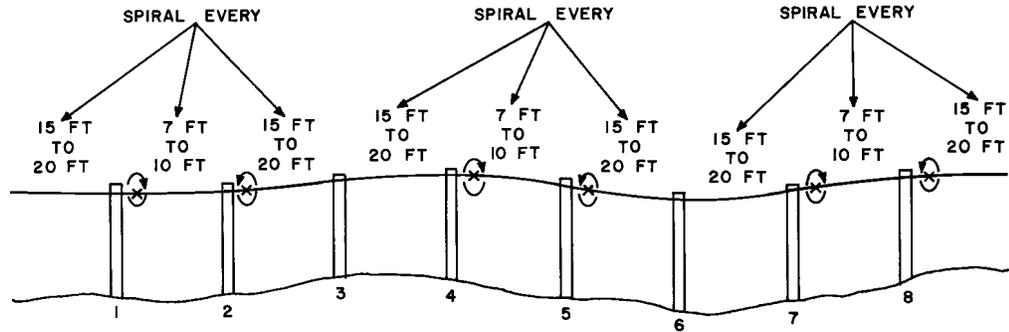

Fig. 1—Spiraling Single Lashed Polyethylene Sheathed Cable
3.02 Fig. 1 shows the method of spiraling lashed cable. The instructions following are based on the assumption that all spans shown in Fig. 1 are equal in length. In the field it is important that a system of spiraling be planned:
- (1) At pole No. 1 spiral the cable and strand in the direction shown in Fig. 1 until there
(2) Therefore, at pole No. 2 spiral the cable and strand in the opposite direction as shown in Fig. 1, until there is a complete spiral every 15 to 20 feet in the span to the *right* of the pole. Assuming the spans are of equal length, this will result in a spiral every 7 to 10 feet in the span between poles No. 1 and 2, which prevents the cable from falling to the bottom of the strand and prevents further dancing. The fact that the lashing wire is loose is unimportant.
(3) At poles No. 4 and 7 repeat the spiraling operation like that completed at pole No. 1. At poles No. 5 and 8 repeat the spiraling operation like that completed at pole No. 2. Follow this same pattern for the remainder of the line that is to be spiraled.